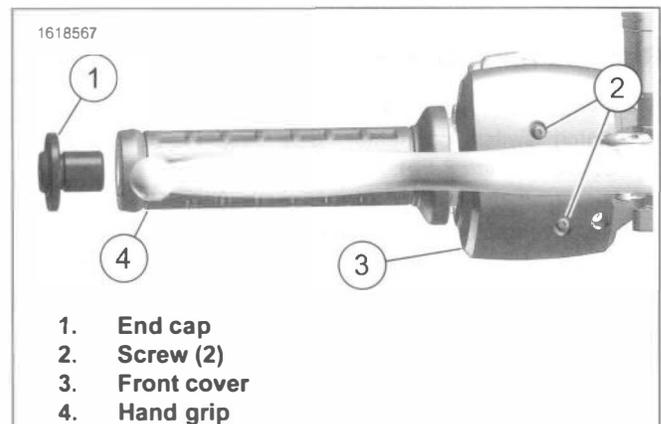
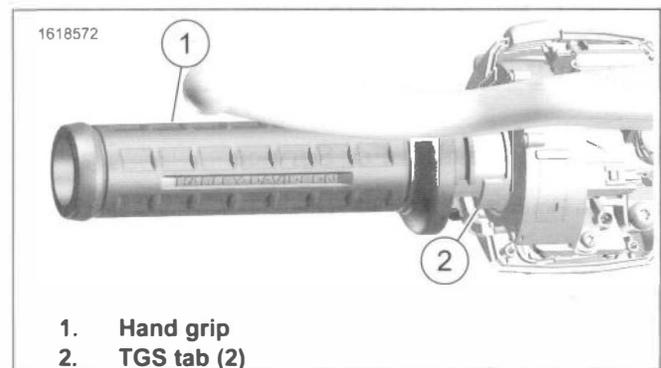

Figure 3-90. Right Hand Grip
Figure 3-91. TGS Engagement
1. See Figure 3-90. Remove hand grip.
- a. Loosen screws (2) and front cover (3).
- b. Remove end cap (1).
- c. Remove right hand grip (4).
1. See Figure 3-91. Install hand grip.
- a. Align TGS tabs (2) with gaps in grip (1).
2. See Figure 3-90. Install end cap (1). Tighten.